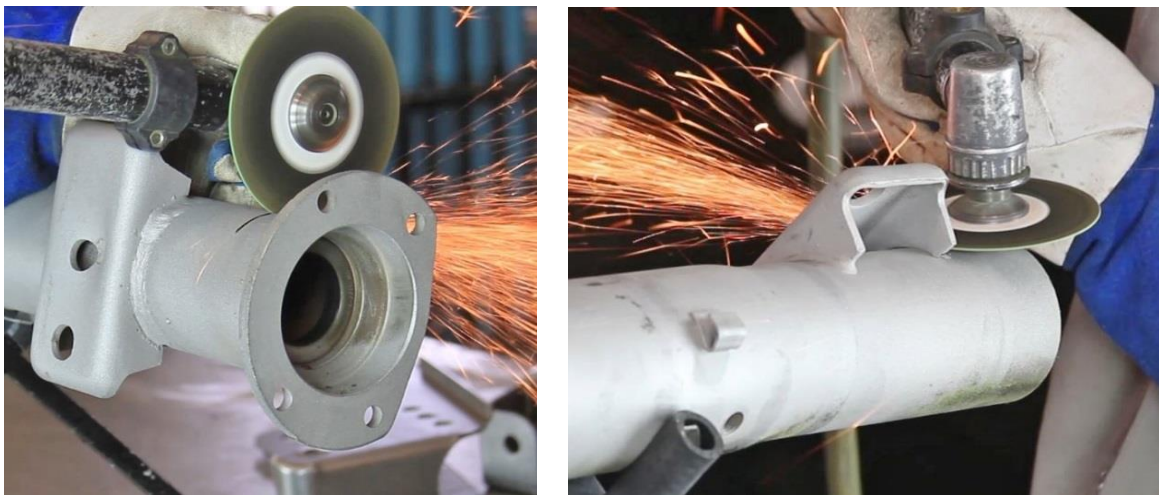

Figure 1 – Remove Housing Ends & Leaf/Coil Spring Brackets
1. If you are using a stock rear axle and will be replacing the housing ends, remove them from the axle tubes. Remove the factory leaf spring or coil spring brackets from the axle tubes (Figure 1). Grind the factory welds on the axle tubes for a clean finish.